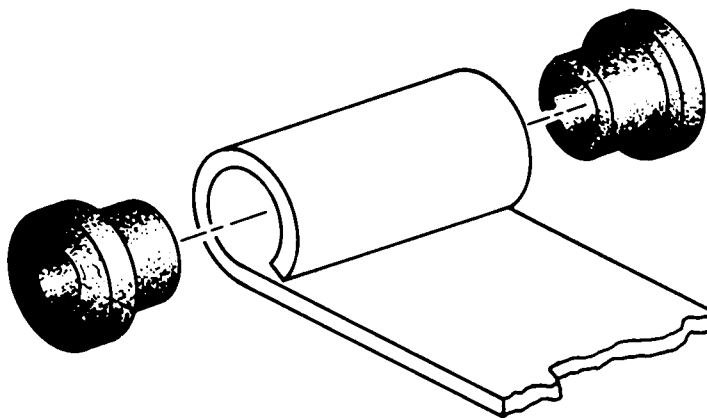

Fig. 23
4. Insert the specially fabricated plastic bushings into the front eye of each spring as shown in Fig. 23. A large C-clamp can be used to press the bushings into the spring eye, or a long, $\frac{3}{8}$ -inch bolt, nut and washer can be used to draw the two bushings into the spring eye. Sometimes the bushings can be tapped (not hammered) into place with a plastic or wooden mallet.
5. Install new stock rubber bushings into the rear eye of each spring (two per spring) (Fig. 23), and insert new stock rear spring chassis bushings into the frame.